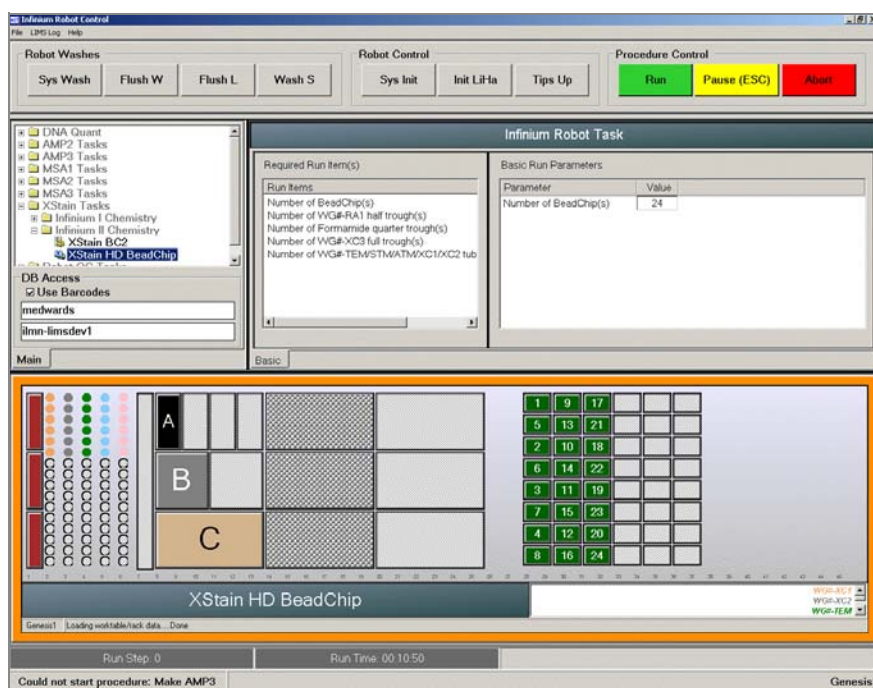

Figure 158 XStain HD BeadChip Screen
4. Place a quarter reservoir in the reservoir frame according to the robot bed map (Figure 158), and add 95% formamide/1 mM EDTA as follows: